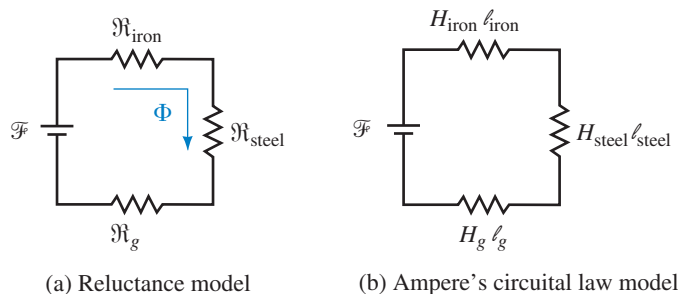

FIGURE 12–21 Two models for the magnetic circuit of Figure 12–13.
You now have two magnetic circuit models (Figure 12–21). While the reluctance model (a) is not very useful for solving problems, it helps relate magnetic circuit problems to familiar electrical circuit concepts. The Ampere’s law model, on the other hand, permits us to solve practical problems. We look at how to do this in the next section.
2. For Figure 12–17, if $H = 3500$ At/m and $N = 1000$ turns, then for (a), I is _____ A, while for (b), I is _____ A.